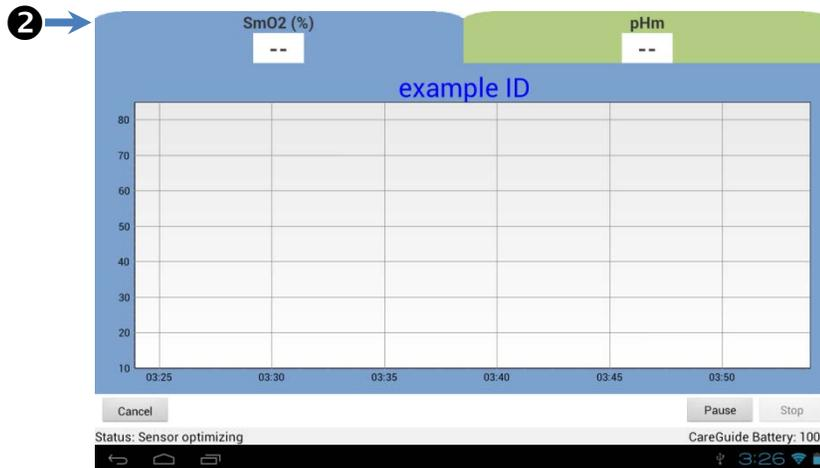

Figure 18. Sensor Optimizing
- 2 The Sensor optimizes to the patient, which can take 60-90 seconds (Figure 18 ②).